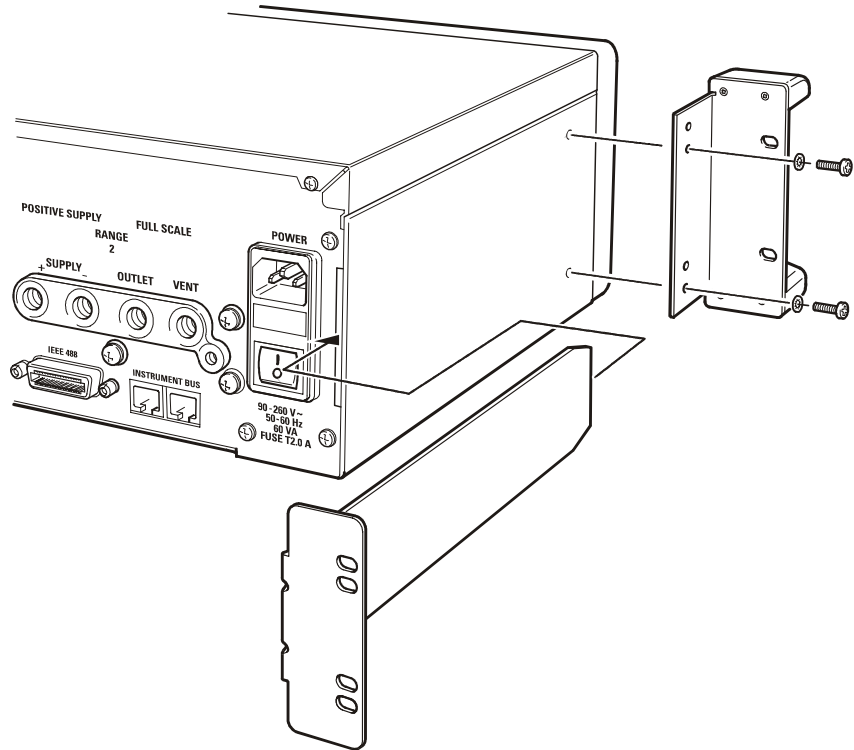

Figure 2-5 Rack-mounting
2.5 Rack-mounting (Figure 2-5)